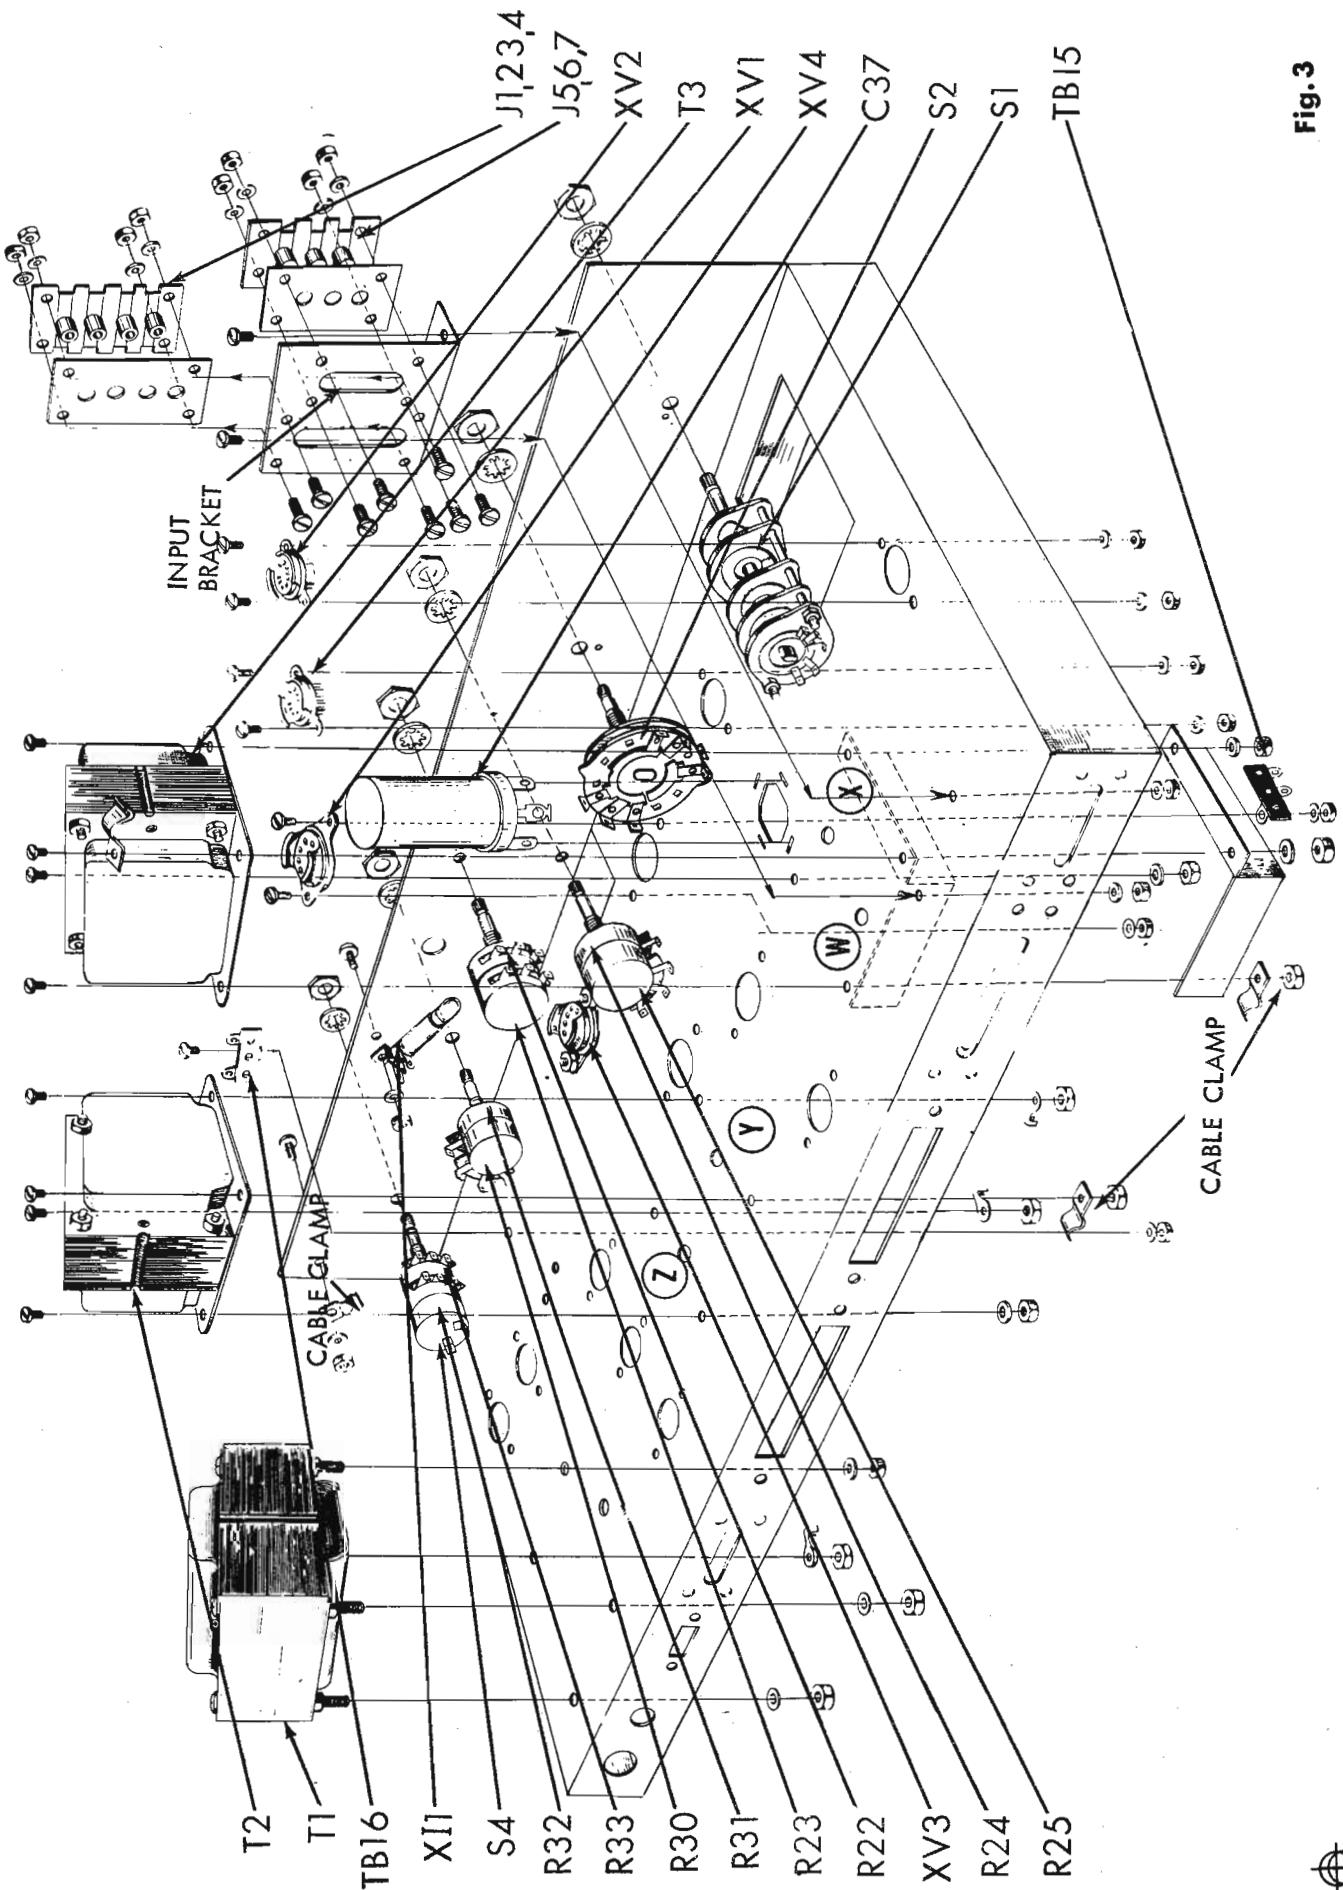

Fig. 3
11. (✓) Fig. 3. On the power transformer, T1, cut both green leads, the red-yellow lead and the white lead to 2 1/2"; both yellow leads to 3 1/2"; both red leads and both black leads to 5 1/2". Mount the power transformer as shown. Position so that the green and yellow leads face the center of the chassis (see figure 6). Use three #8 lockwashers and three #8-32 hex nuts on three of the screws. On the fourth screw, use one #8 grounding lug and one #8-32 hex nut.
12. (✓) Fig. 3. On the output transformer, T2, cut the black, brown, green, orange and yellow lead to 4". Cut the blue, red and brown-yellow lead to 3". Mount the output transformer as shown. Push the red, blue and brown-yellow leads through hole "Z" nearest the power transformer mounted in step 11. Push the other leads through the hole "Y". Use four #8-32 screws, one #8 lockwasher, two #8 ground lugs, and one cable clamp. Secure each with a #8-32 hex nut. Slide all leads from hole "Y" under the cable clamp before tightening. See Fig. 8.
13. (✓) Fig. 3. On output transformer, T3, cut the orange, yellow, red and green leads to 6". Cut the brown lead to 5". Cut the blue and brown-yellow leads to 4". Push the red, blue and brown-yellow leads through hole "X". Push the other leads through hole "W". Use four #8-32 screws, three #8 lockwashers and four #8-32 hex nuts. Under two of the lockwashers, mount the shield. Under the nut without the lockwasher, mount the cable clamp. On the top of the chassis, mount a cable clamp under one of the screw heads. Do not tighten this screw yet. Run all leads from hole "W" under the cable clamp under the chassis in the direction shown in figure 8. Tighten all nuts except the one holding the clamp on the top side of the chassis.
14. (✓) Fig. 3. Mount the electrolytic can capacitor, C37, as shown. In figure 6, note the direction of the half moon, square and triangle near lugs to determine direction of mounting. Insert the mounting tabs into the slots in the chassis and twist the tabs somewhat less than a quarter turn. DO NOT twist the tabs excessively or they will shear off. Solder the tab without a hole to the chassis at its slot.
15. (✓) Fig. 3. Insert the pilot light, I1, into the pilot light assembly, XI1. Screw the assembly to the chassis as shown using one #6-32 screw, one #6 lockwasher and one #6-32 hex nut. Tighten the mounting screw and nut after the pilot light has been lined up with the hole in the front chassis apron.
16. (✓) Fig. 3. Mount the input bracket as shown. Use two #6-32 screws, two #6 lockwashers and two #6-32 hex nuts. Follow arrows to mounting holes.
17. (✓) Fig. 3. Mount the four terminal input strip, J1, 2, 3, 4, as shown. Use four #6-32 screws, four #6 lockwashers and four #6-32 hex nuts. Use a four hole insulator between the input strip and the input bracket.
18. (✓) Fig. 3. Mount the three terminal input strip, J5, 6, 7, as shown. Use four #6-32 screws, four #6 lockwasher and four #6-32 hex nuts. Use a three hole insulator between the input strip and the input bracket.
19. (✓) Fig. 3. Mount the cable clamp on the upper left hand corner of the front apron, as shown. Use one #8-32 screw, one #8 lockwasher and one #8-32 hex nut.